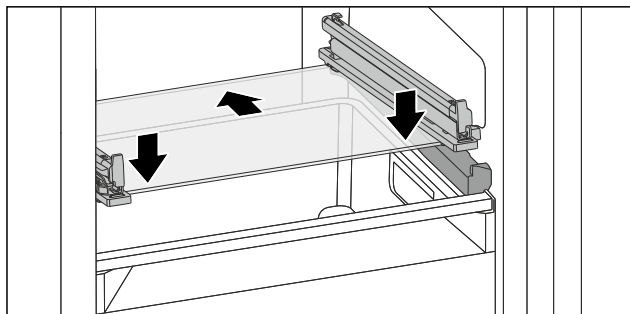

Fig. 109 Tilting drawer glass shelf
- Position glass shelf at an angle behind the stoppers. (see Fig. 109)